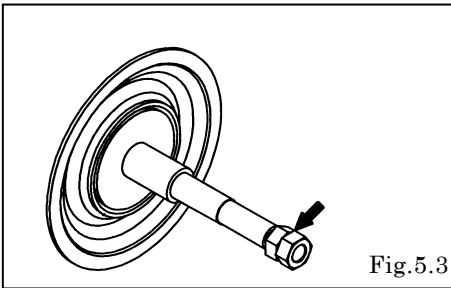

Fig.5.3
- Remove the other nut using the double-nut method. Then, remove the coned disk spring, center disk, diaphragm and center bushing. [Fig.5.3]